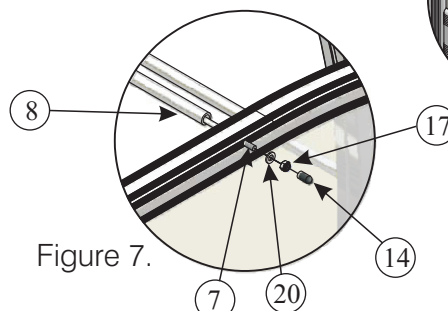

Figure 7.
4.) Attach the retaining bars (7) from one end by sliding through the holes located in the sideframe and the bent supports (3). This will require 2 people as one will need to push the bars through while the other will need to slide the bars through the retaining tubes (8) to space the sections at the correct length (Figure 7). Once the retaining bar is all the way through there should be approx 15mm protruding either side. This allows the bar to be fixed and tightened at each end. This is done by placing a skiffy washer (20) on first and then fixing with BOL400 (17). Hand tighten this at first as you will need to allow movement between the sections when fitting the plastic later.
*Note: CAP951 (14) needs to be fitted once the retaining bars have been tightened and the shelter is complete (Figure 7).*